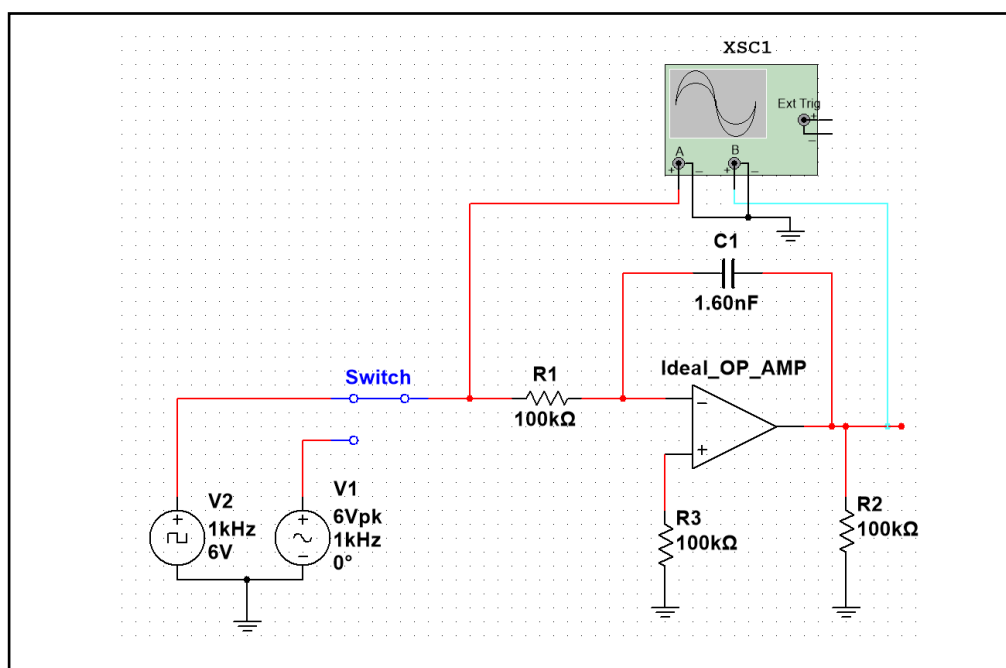

Fig 5.1: Circuit Diagram Showing Integrator Amplifier Circuit Connected in MultiSim Software
- Make the circuit connection as per the Fig. 5.1.